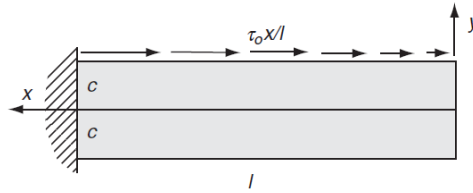

Figure 4
9. The cantilever beam (of unit width) shown in Figure 4 is subjected to a distributed shear stress $\tau_o x/l$ on the upper face. The following Airy stress function is given